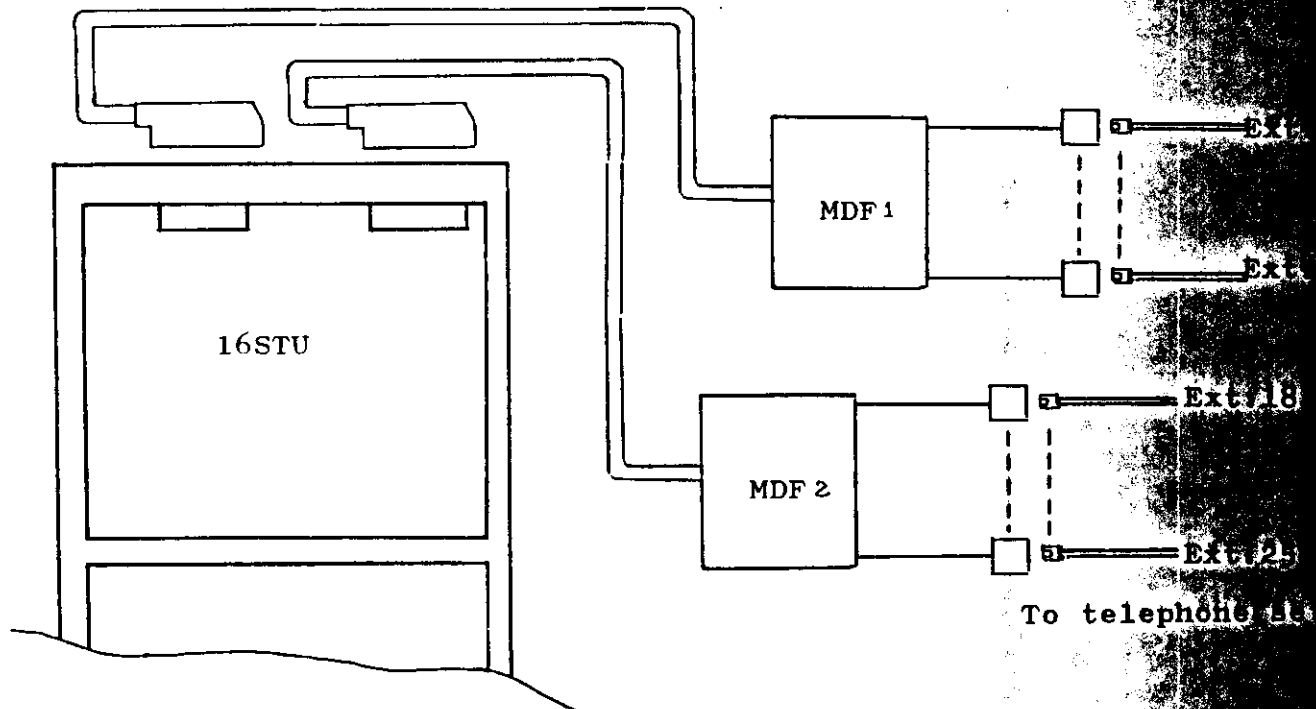

Fig.11 Station Line Connection
- (1) Route a 4-conductor cable from the KSU cabinet to the telephone set location.
- (2) Install the MDF near the KSU cabinet.
- (3) Mount a USOCRJ14C jack near the telephone set location.
- (4) Connect a telephone to the MDF using the 4-conductor cable and a jack installed between the telephone and the MDF (Fig.11).
- (5) Connect the MDF to the 16STU card using the 50-conductor cable with the Amphenol connector (Fig.11).
5	Connect one end of the 4-conductor cable to the MDF and the other end to the jack (Fig.11 and 14).